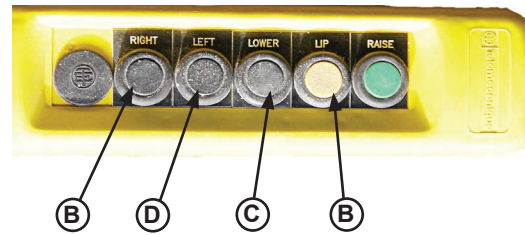

Figure 26
3. If leveler is not centered with transport vehicle opening, press the LEFT or RIGHT button (see Figure 26).